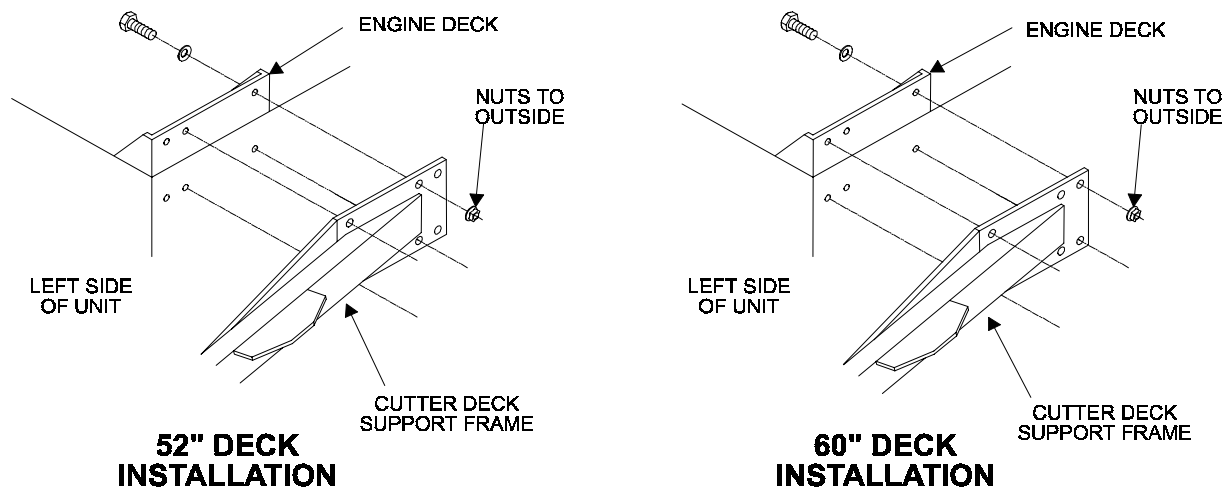

FIG. 1
- 3.5.3 Install cutter deck support frame to tractor engine deck and secure using (8) 3/8-16 x 1" screws, (8) disc spring washers and (8) whizlock nuts from bolt bag (See Figure 1).
NOTE: Make sure that the bolts are placed in the proper mounting holes in both frames. There are different mounting bolt locations for the 60" and 52" decks (See Figure 1).
NOTE: Place spring washer cone side against bolt head (cupped side away from head) and install to inside of engine deck (as shown in Figure 1). Install with whizlock nuts to the outside of the support frame. Tighten until spring washers are flat.